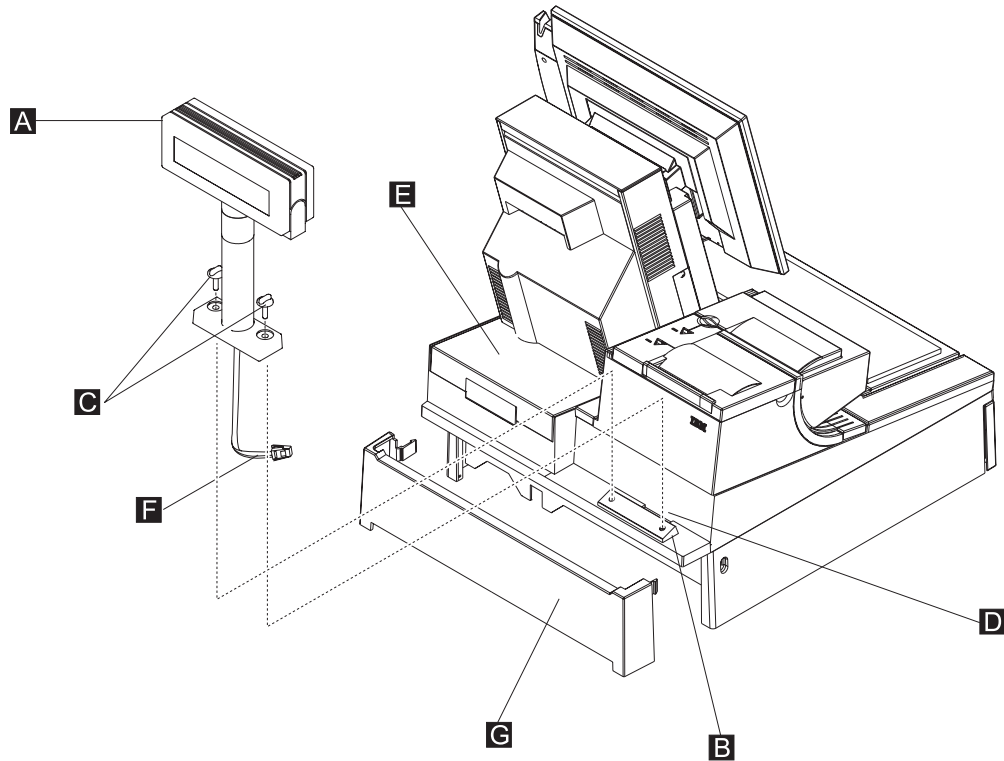

Figure 96. Installing the distributed customer display onto the keyboard integration tray
- a. Remove filler panel **E** and rear modesty panel **G** Figure 96.
- b. Route the character display cable through the hole behind mounting post **B** as show in Figure 96. You may need to lay the display on its side to connect the display cable to the system unit rear connector panel.
- e. Attach the distributed customer display **A** to the cash drawer mounting post **B** with two thumbscrews **C** and snap the entire unit into place at the rear of the tray, as show in Figure 96.